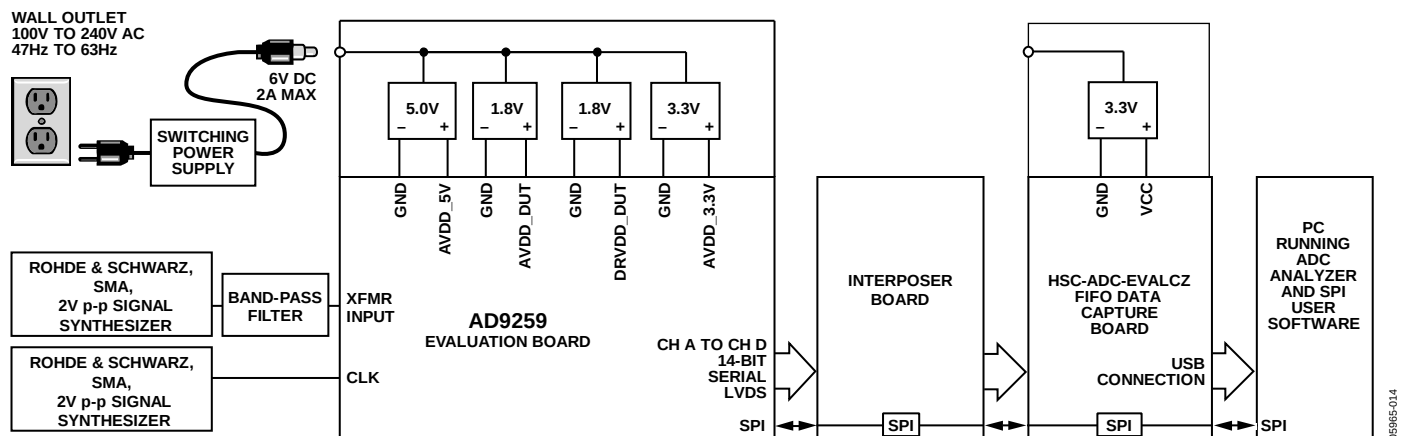

Figure 60. Evaluation Board Connection
The AD9259 evaluation board provides all of the support circuitry required to operate the ADC in its various modes and configurations. The converter can be driven differentially using a transformer (default) or a AD8332 driver. The ADC can also be driven in a single-ended fashion. Separate power pins are provided to isolate the DUT from the drive circuitry of the AD8332. Each input configuration can be selected by changing the connection of various jumpers (see Figure 62 to Figure 66). Figure 60 shows the typical bench characterization setup used to evaluate the ac performance of the AD9259. It is critical that the signal sources used for the analog input and clock have very low phase noise (<1 ps rms jitter) to realize the optimum performance of the converter. Proper filtering of the analog input signal to remove harmonics and lower the integrated or broadband noise at the input is also necessary to achieve the specified noise performance.
- **D + x, D - x:** If an alternative data capture method to the setup shown in Figure 60 is used, optional receiver terminations, R206 to R211, can be installed next to the high speed back-plane connector.